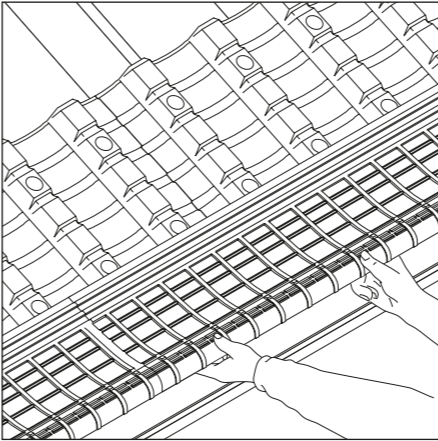

Fig 4
- 6 For 10mm and 25mm standard kits, the underlay support tray should be laid so that the curved front edge dresses down over the fascia vent unit towards the gutter (each tray provides 600mm effective cover) (Fig 4).